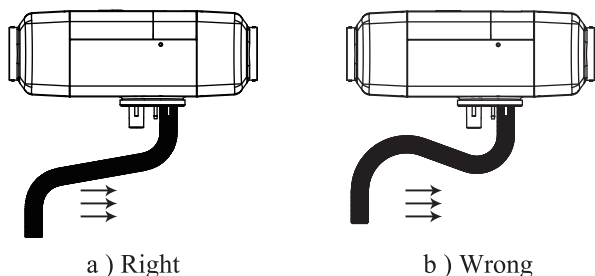
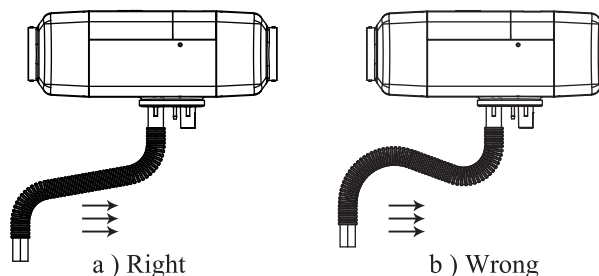

Fig. 24
Fig. 26
4.6.3 - Both the air inlet pipe and exhaust pipe shall come outwards and downwards from the heater (Fig. 24 and Fig. 26), or a $\Phi 5\text{mm}$ hole shall be prepared at the bottom of the pipe for discharge of condensate water. If the pipe has to be bent, the bending radius of the pipe cannot be less than 50mm. Also, the sum of all curve angles for each pipe shall not exceed 270° .